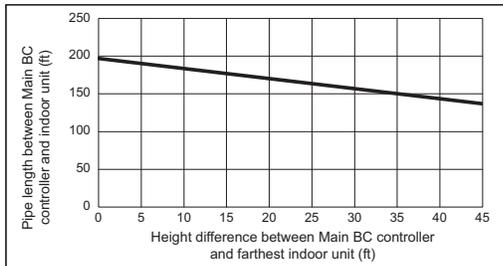

Fig. 2
*1. When the piping length or the vertical separation exceeds the limit specified in Fig. 2, connect a sub BC to the system. The restriction for a system with a sub BC connection is shown in Fig. 3. When a given system configuration falls within the shaded area in Fig. 3, increase the size of the high-pressure pipe and the liquid pipe between the main BC and sub BC by one size. The maximum liquid branch pipe diameter is $\phi 19.05$. If a given system already has a $\phi 19.05$ -pipe between the main BC and sub BC, there is no need to increase the pipe size. When using P12, P15, P18, P36, or P48 model of indoor units, increase the size of the liquid branch pipe between the sub BC and indoor unit by one size. When using indoor models P54 or larger, the restrictions shown in Fig. 2 cannot be exceeded.